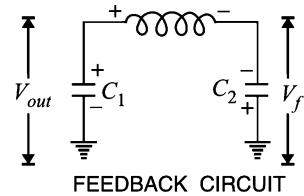

Fig. 14.11
Circuit operation. When the circuit is turned on, the capacitors C_1 and C_2 are charged. The capacitors discharge through L , setting up oscillations of frequency determined by exp. ** (i). The output voltage of the amplifier appears across C_1 and feedback voltage is developed across C_2 . The voltage across it is 180° out of phase with the voltage developed across C_1 (V_{out}) as shown in Fig. 14.11. It is easy to see that voltage feedback (voltage across C_2) to the transistor provides positive feedback. A phase shift of 180° is produced by the transistor and a further phase shift of 180° is produced by $C_1 - C_2$ voltage divider. In this way, feedback is properly phased to produce continuous undamped oscillation.
** Referring to Fig. 14.11, it is clear that C_1 and C_2 are in series. Therefore, total capacitance C_T is given by;
*** Referring to Fig. 14.11, the circulating current for the two capacitors is the same. Further, capacitive reactance is inversely proportional to capacitance.